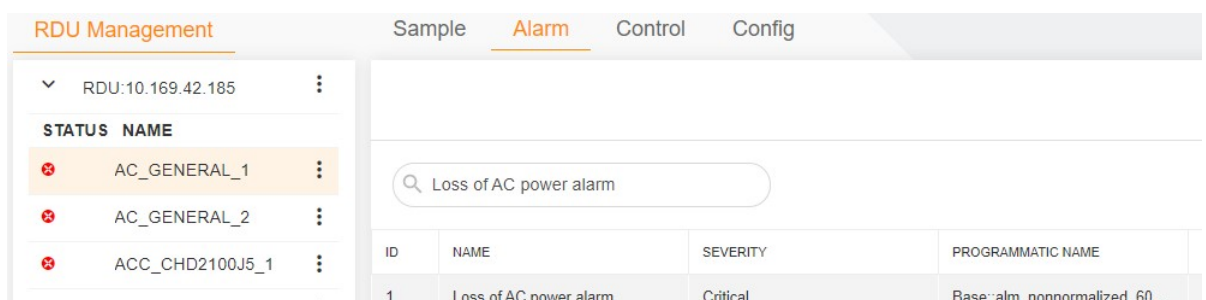

Figure 6-29 Editing the alarm
1. Click  on the rightmost of the alarm to be edited, and select **EDIT** (as shown in Figure 6-29).